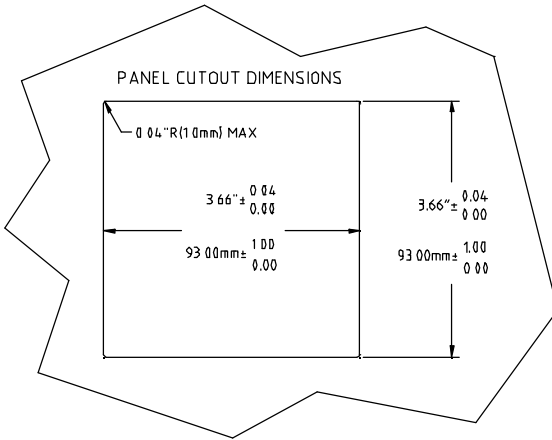

Figure 1
1. Make a cutout on any panel (**figure 1**), with a thickness of 1/16 in. (1.5 mm) to 3/8 in. (9.5mm)